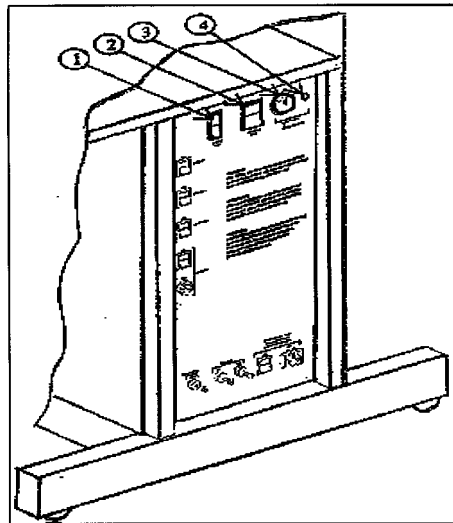

Figure 3-1. Hologic power module right side panel
- Check that the INSTRUMENT POWER switch (2) on the Power Module **right side panel** is in the ON position.
- X-RAY ENABLE KEY (3) should be OFF. See Figure 3-1.
- COMPUTER POWER switch (1) should be ON. (This is left ON to allow network backup overnight). See Figure 3-1.